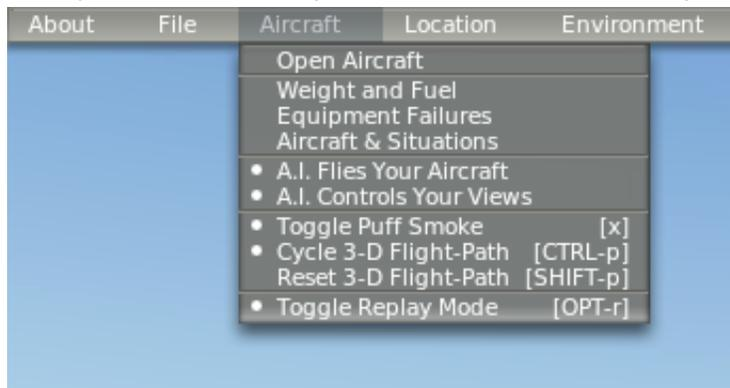

Figure 5.2: Selecting the Open Aircraft dialog from the Aircraft menu
2. Click Aircraft, then click Open Aircraft, as in Figure 5.2.